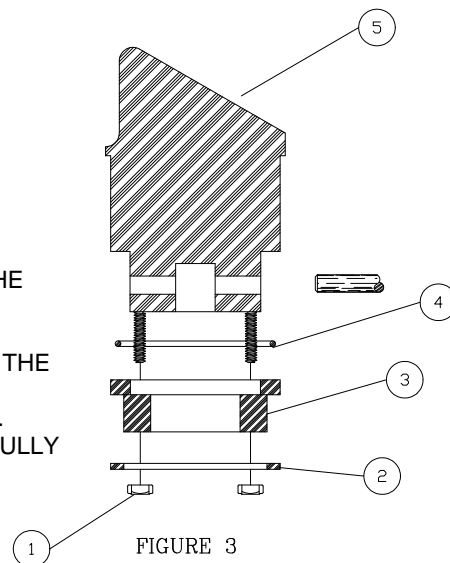

FIGURE 3
YOU MAY FIND UPON INSPECTION OF THE PISTON THAT THE DOUGH HAS SEEPED INTO THE CUP. THIS IS A NORMAL OCCURRENCE AFTER MODERATE PRODUCTION. TO KEEP THE RUBBER "O" RING FROM PREMATURELY DETERIORATING, STRETCHING OR BREAKING, INSPECT AND CLEAN EVERY (4) WEEKS IN THE FOLLOWING MANNER, (FIG. 3). DISASSEMBLE THE PISTON BY REMOVING THE HEX NUTS ON THE BASE OF THE PISTON ASSEMBLY. REMOVE THE STEEL WASHER (PART NO. 302PY) AND PLASTIC PISTON RING (PART NO. 323PY). CAREFULLY CLEAN EXCESS DOUGH FROM THE PISTON AND "O" RING. REASSEMBLE THE PISTON BEING CAREFUL NOT TO OVERTIGHTEN THE PISTON RING.